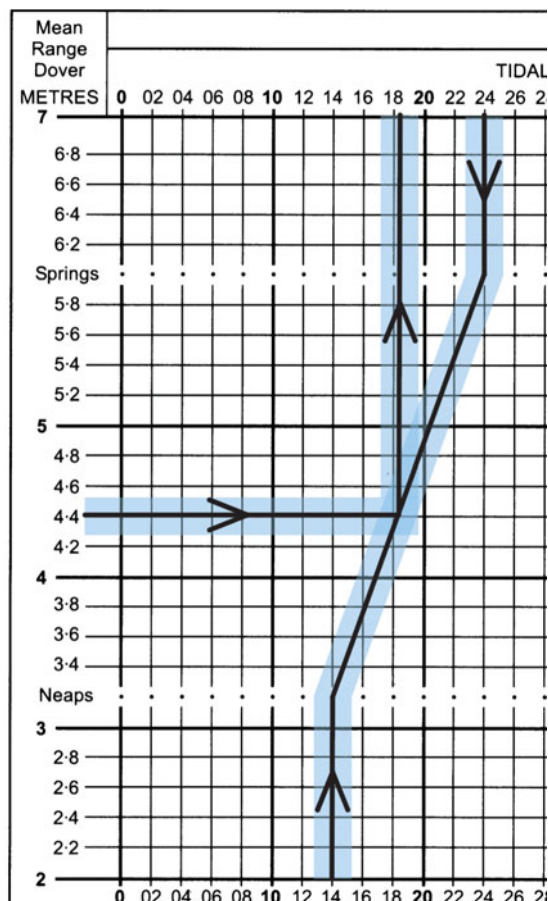

Fig 71 Using the tidal stream interpolation chart to work out the actual rate.
- 1 On the interpolation chart (see Figure 71), mark the spring rate (2.4 knots) on the dotted line labelled ‘Springs’, and the neap rate (1.4 knots) on the dotted line labelled ‘Neaps’.